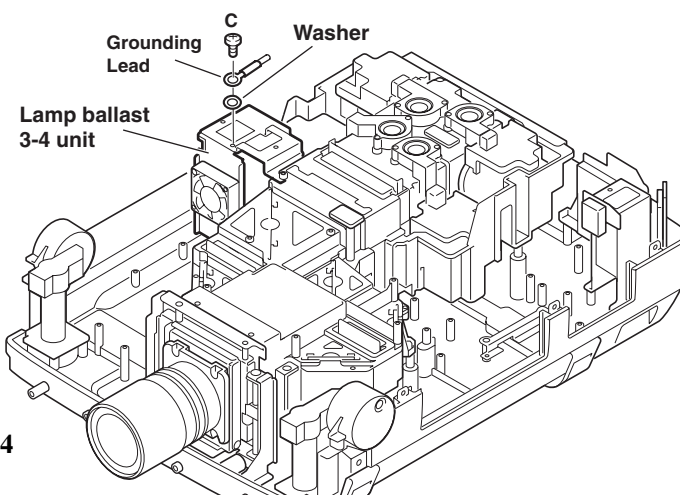

Fig.5-4
1. Remove screws-C, remove washer and remove the grounding lead. (Lamp ballast 3-4 units. See Fig.5-4)